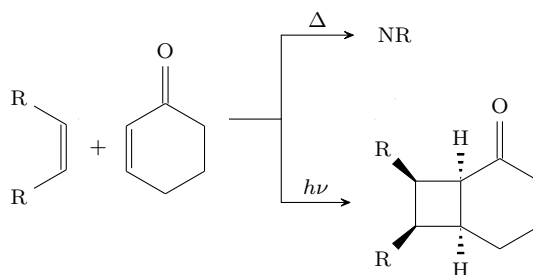

Figure 2.42: [2 + 2] cycloaddition.
- But in Figure 2.42, the reactants are *not* identical, and it turns out that there *is* a preference for which of these two species absorbs the photon!
- In the context of Figure 2.42, the enone will absorb the photon because its diradical is resonance-stabilized.